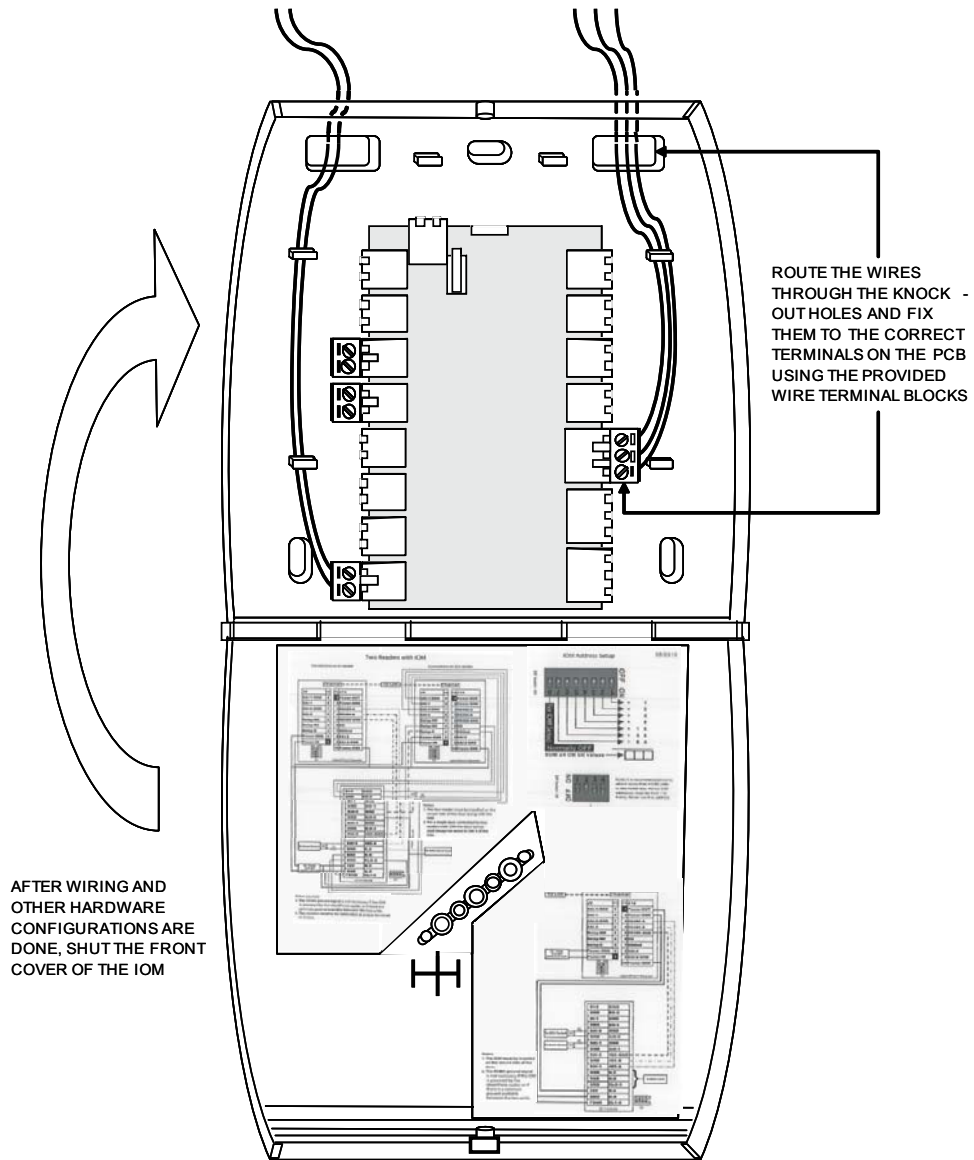
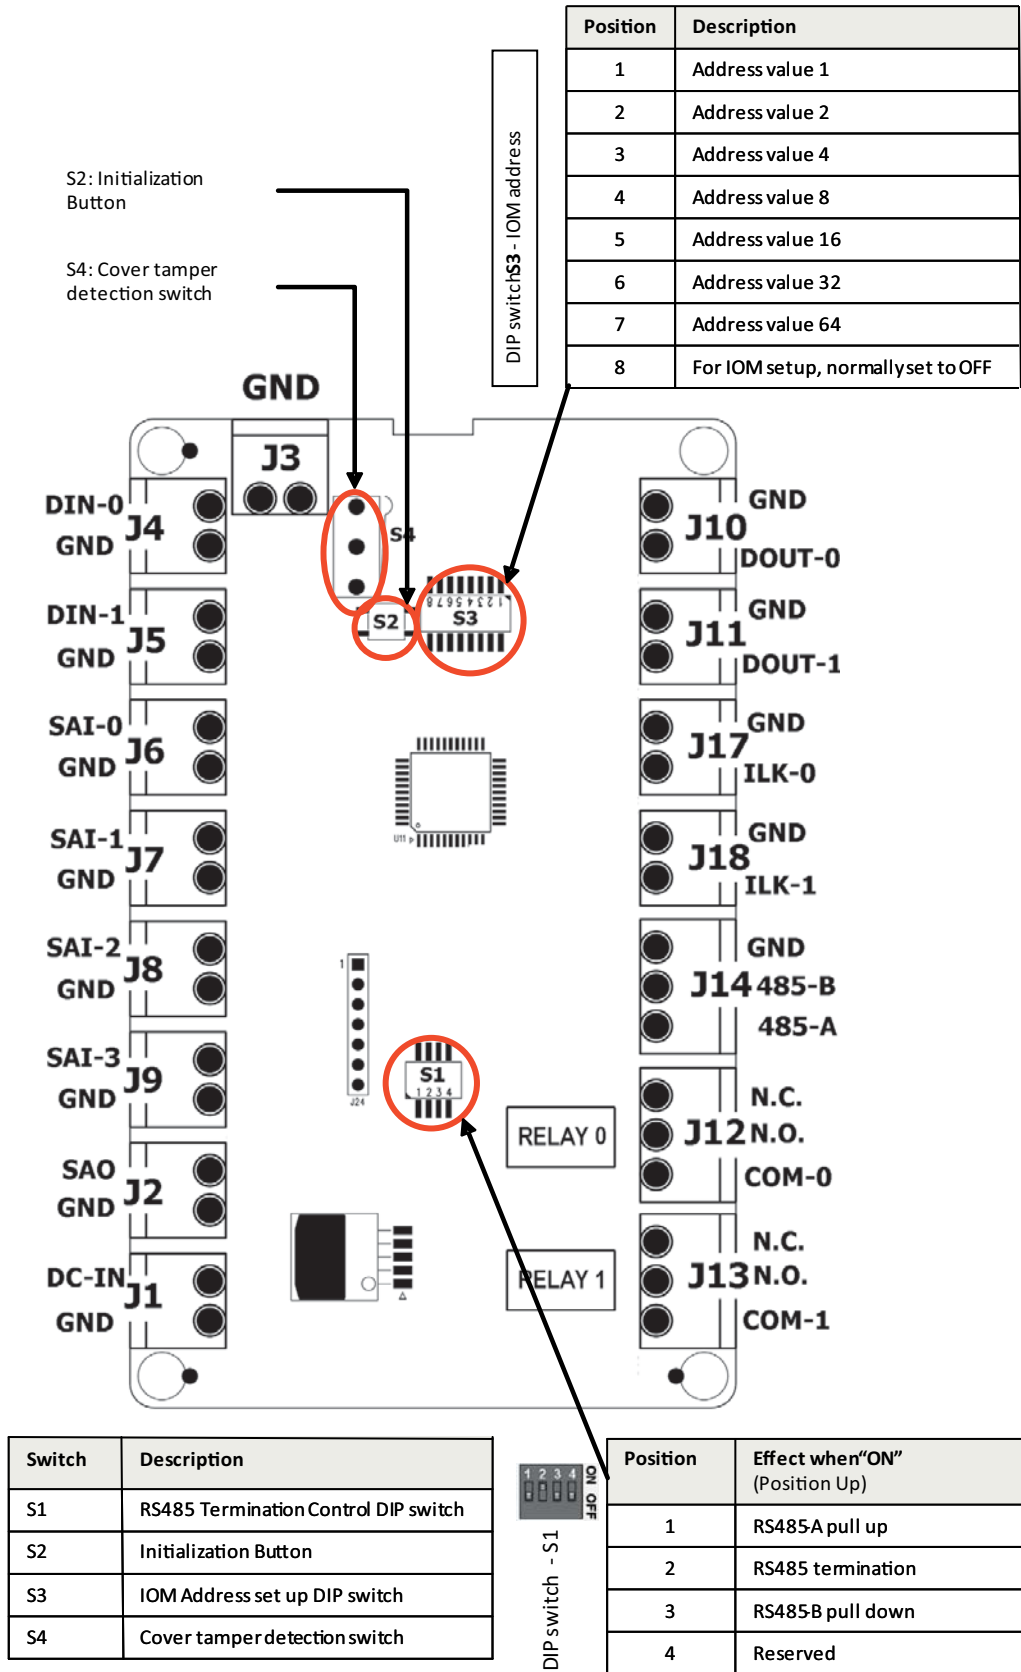

Fig. 16. Routing the wires and connecting them to the IOM PCB
Fig. 18. IOM connections
Grounds need to be affixed first before applying any power to a configuration. The dedicated ground connector J3 on the IOM (see Fig.18) can be used for the above purpose.
tances. Connect the wire terminals to the ends of the wires and plug the wire terminal(s) in their correct slots on the PCB. See Fig.16. For IOM connection details see Fig.18 and Table.8. Drop the excess wire lengths behind the drywall. Set the S1 DIP switch if the IOM is to be connected to a reader via RS485. See Fig.18, Table.10 and Section *RS485 Communication and Termination Setting of Connector and Switch Descriptions* topic for more details.
6. Set the IOM address as per Fig.18, Table.11 and Section *IOM Address Setup of Connector and Switch Descriptions* topic for more details.
7. Once all connections and settings are done, close the IOM enclosure by pressing the front case cover over the back half. See Fig.16.
4. Connect the wire terminals to the ends of the wires and plug the wire terminal(s) in their correct slots on the PCB. See Fig.16. For IOM connection details see Fig.18 and Table.8. Allow room for any excess wire lengths inside the gang box. Set the S1 DIP switch if the IOM is to be connected to a reader via RS485. See Fig.18, Table.10 and Section *RS485 Communication and Termination Setting of Connector and Switch Descriptions* topic for more details.
5. Set the IOM address as per Fig.18, Table.11 and Section *IOM Address Setup of Connector and Switch Descriptions* topic for more details.
6. Once all connections and settings are done, close the IOM enclosure by pressing the front case cover over the back half. See Fig.16.
5. Ensure the other ports of the IOM are similarly connected to the correct corresponding wires from the other devices such as readers, door sensors, door strikes etc. (See *Detailed Wiring Diagrams* and *Wiring Other Devices* topics and Fig.18).